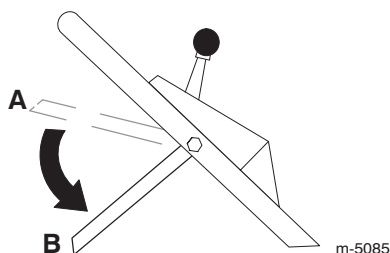

Figure 15
- Release the blade control bail; refer to position **B** in Figure 15. You should hear a “bang.” The blade should stop in 3 seconds.
- Move the blade control bail down to its lowest position (Position **B** in Fig. 15).